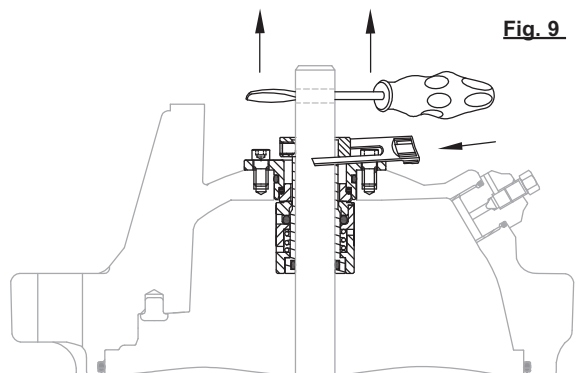

Fig. 9
5. After all the set screws in the collar have been tightened, use a screwdriver to lift the pump shaft up. Once it is up, slide the stack height setting tool under the collar and let the shaft drop. (Fig. 9)